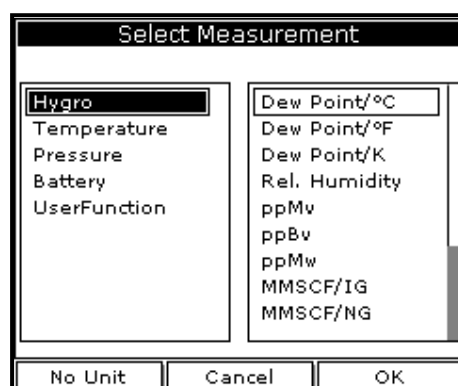

Figure 7: Select Measurement Window
2. Use the arrow keys to scroll to Measurement and press **[ENTER]**. The screen appears similar to *Figure 7*. The left column displays the five measurement types and the right column displays the measurement units.